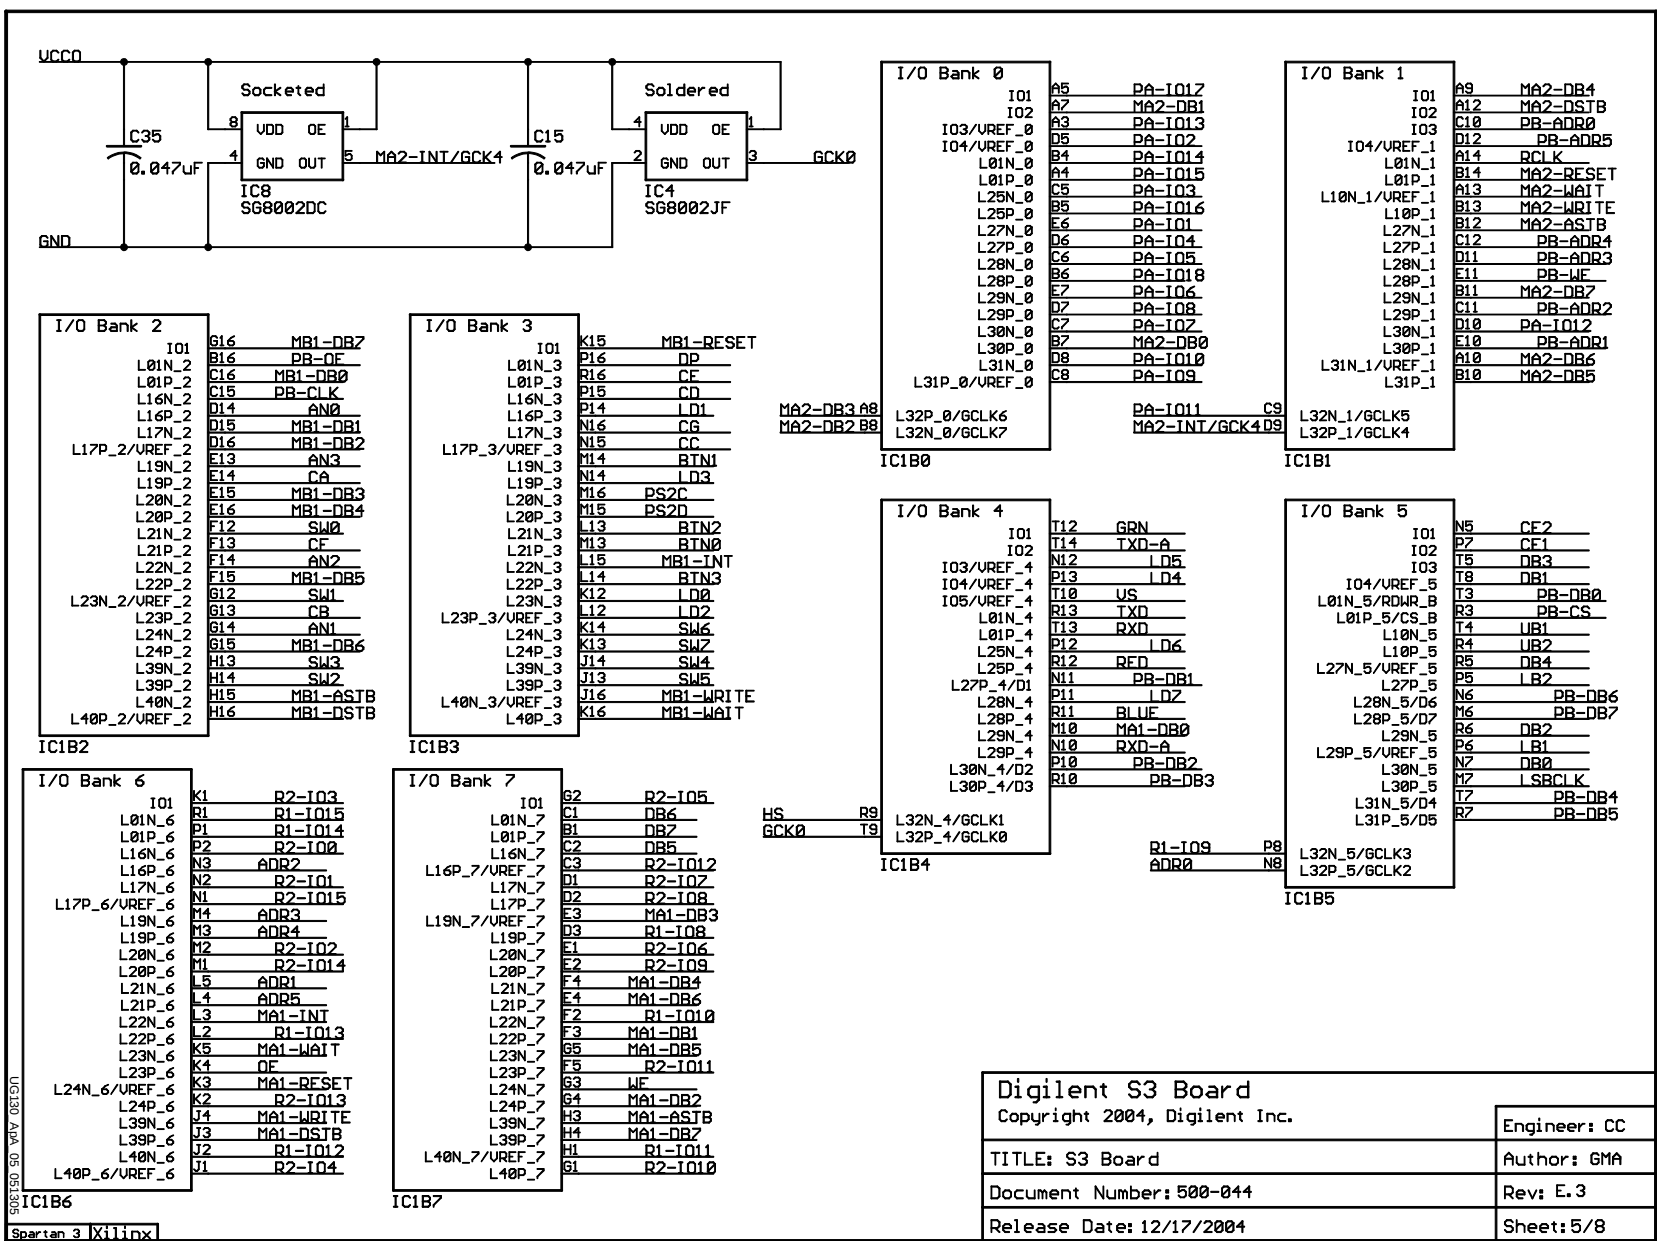

Figure A-5: FPGA I/O Connections, Clock Sources
- Figure A-5, “FPGA I/O Connections, Clock Sources”